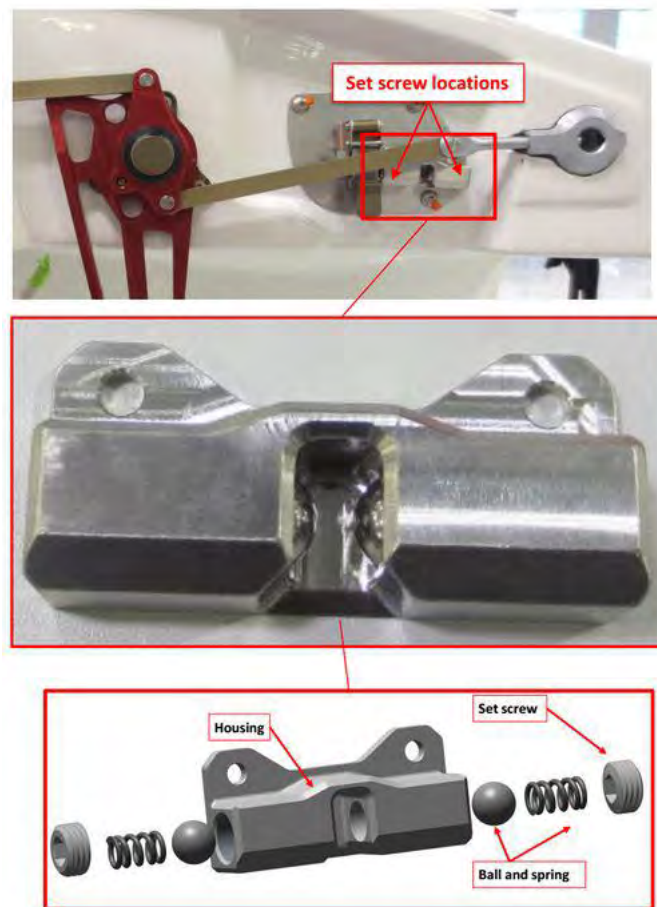

FIGURE 18-13
1. Locate the ICA008702 wing lock catch housing. It mounts to the wing lock switch plate and contains two opposing spring-loaded balls that pinch a feature in the wing lock handle, thus creating a detent that helps hold the handle in the up and locked position (See Figure 18-13).